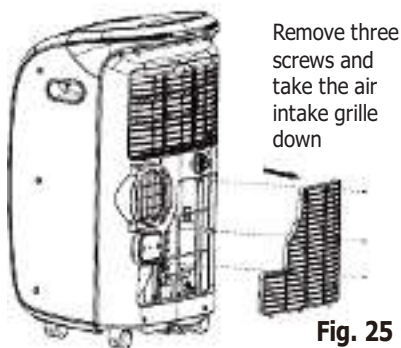

Fig. 25
- This unit has two filters, they are filter A and B. Grasp the upper panel tab and take off the filter A which is behind the grill of the back panel (Fig.24). Remove the lower filter B by loosening the screws. Take down the air inlet grille, then remove the air filter as shown in Fig.25 & 26.